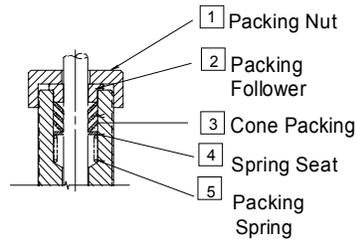

Figure 2: Valves with Cone Packings
Refer to Figure 2. Remove and discard the existing cone packing ③, spring seat ④, and packing spring ⑤, if present.
4. Refer to Figure 2. If replacing cone packings, drop the new spacer ④ into the stuffing box. A new spacer is included with this kit.